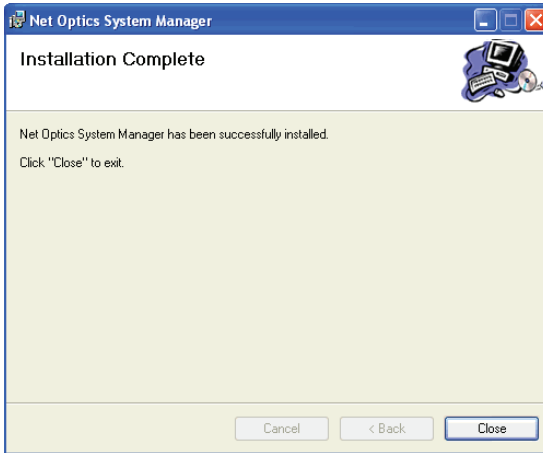

Figure 24: Installation Complete
6. If you want to stop the installation, click **Cancel**. When the installation is complete, the Installation Complete dialog box appears as shown in Figure 24.